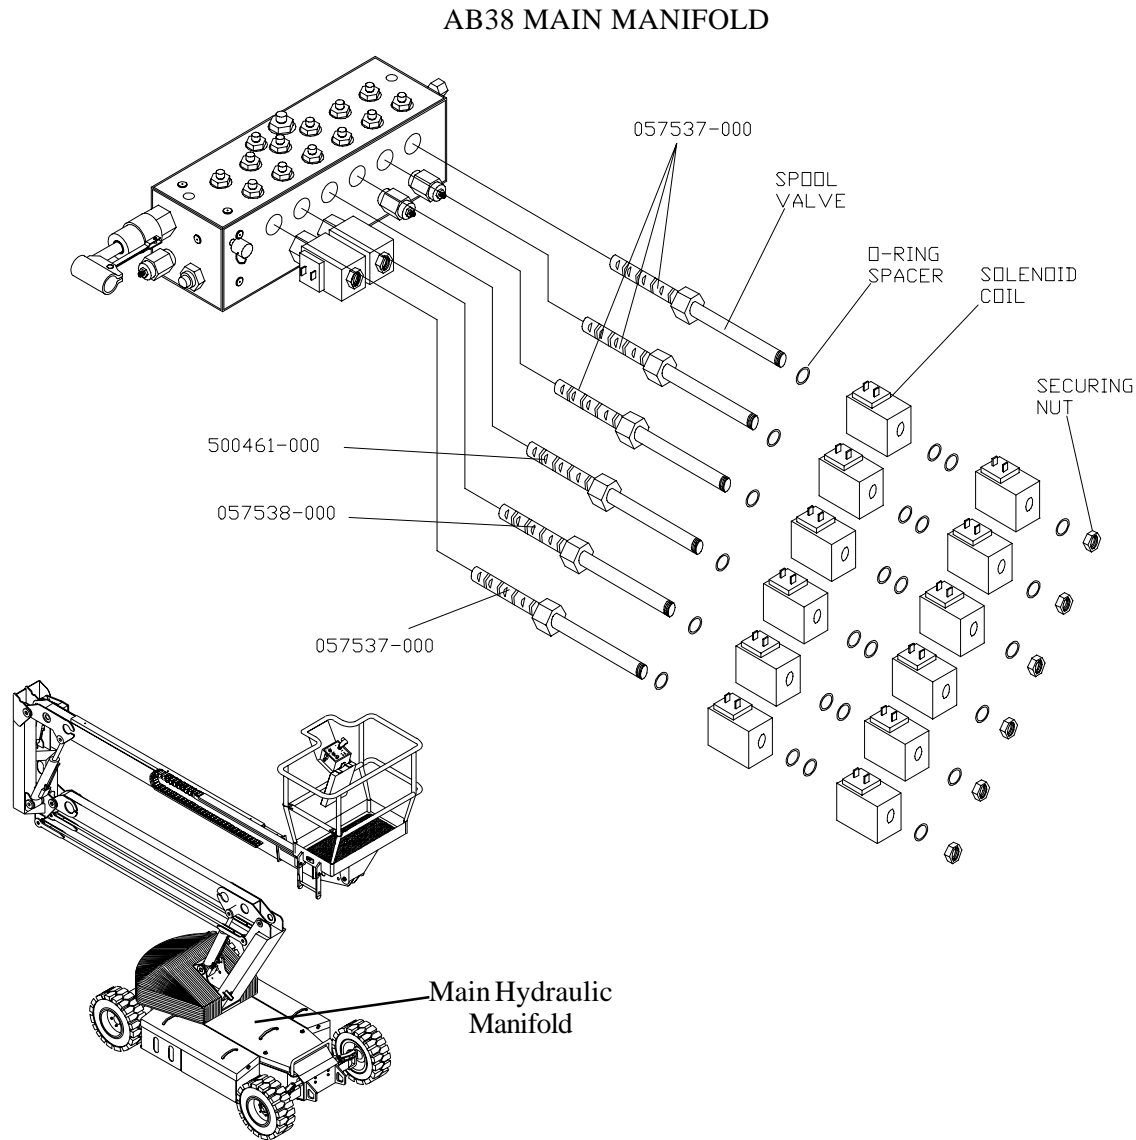

Figure 1
PROCEDURE: Read all instructions thoroughly and refer to Figure 1 on the following page before starting.
3. Remove the Chassis Cover and gain access to the Main Hydraulic Manifold (see Figure 1).
NOTE: Verify that the correct part number valve is being installed per Fig 1.